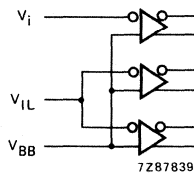

Fig. 5 Test circuit CMR test.
(1): See Fig. 5.
For common mode rejection test, use the same test configuration and limits as 10114 (Fig. 5).